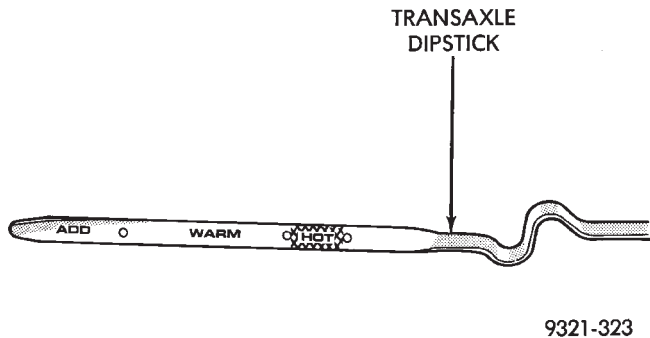

Fig. 10 Dipstick Markings
(7) Add sufficient fluid to bring the level 1/4 inch above the bottom hole of the dipstick. Room temperature oil (70°F.) set at this level will expand (when heated to 180° F.) to a level within the hot range (Fig. 10).